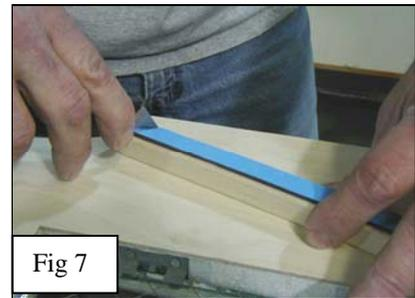

Fig 7
8. Attach double sided glazing tape to the back of the veneer wrapped bead, trimming it to match the mitered corners (Fig 7).